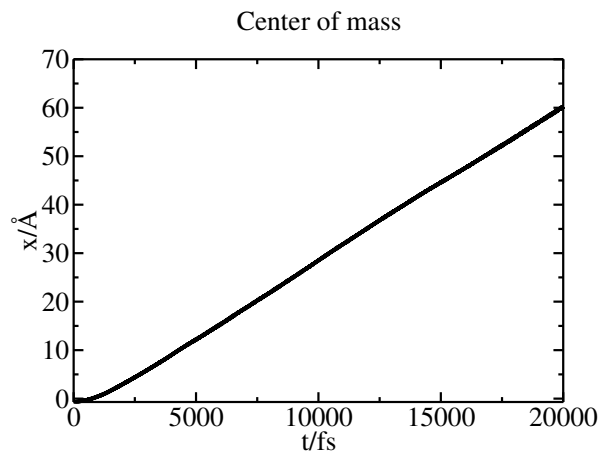

Figure 2: Center of mass position plotted versus time.
- 8 You should see something like Fig. 2. The beginning of the graph is quadratic, as we expect. However, the velocity saturates at some value because of the Langevin dynamics used in the simulation. Langevin dynamics involve a damping factor, which creates a terminal velocity.